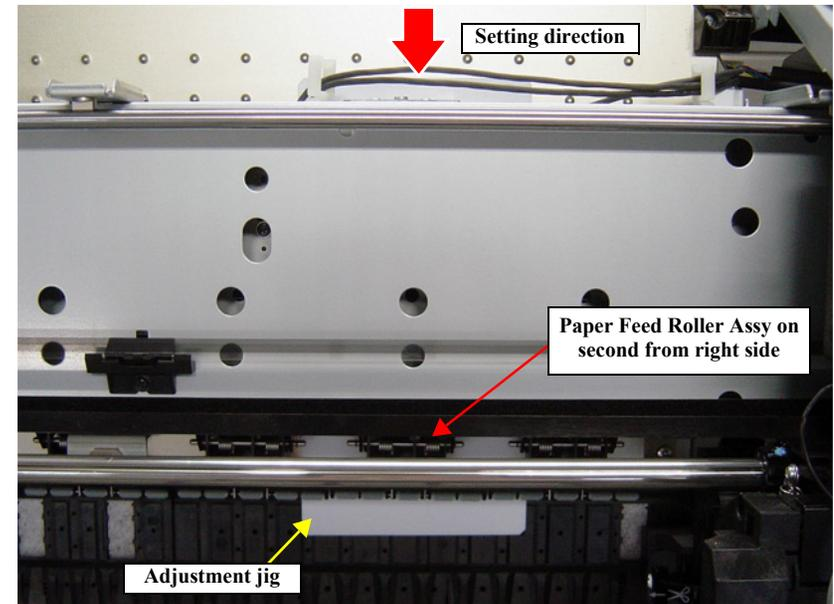

Figure 5-54. Position for the thickness tool (0.4/0.8/0.9 in thickness)
9. Insert the adjustment jig (0.4) from the paper insertion opening, and set it to the position shown in Figure 5-54, then press the [**Paper Set**] button.
15. Insert the adjustment jig (0.8) from the paper insertion opening, and set it to the position shown in Figure 5-54, then press the **[Paper Set]** button.
18. Insert the adjustment jig (0.9) from the paper insertion opening, and set it to the position shown in Figure 5-54, then press the **[Paper Set]** button.